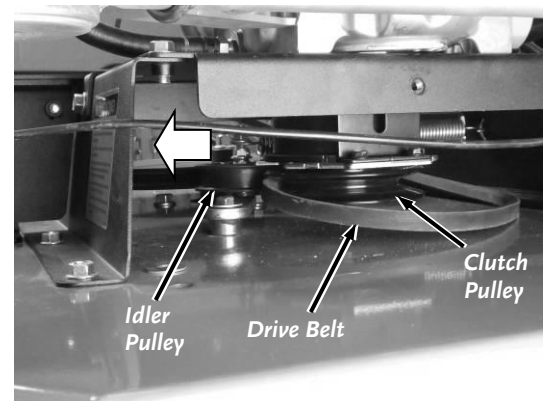

Figure 36a
- From the back of the machine, insert the new Drive Belt under the Clutch Pulley (**Figure 36a**).